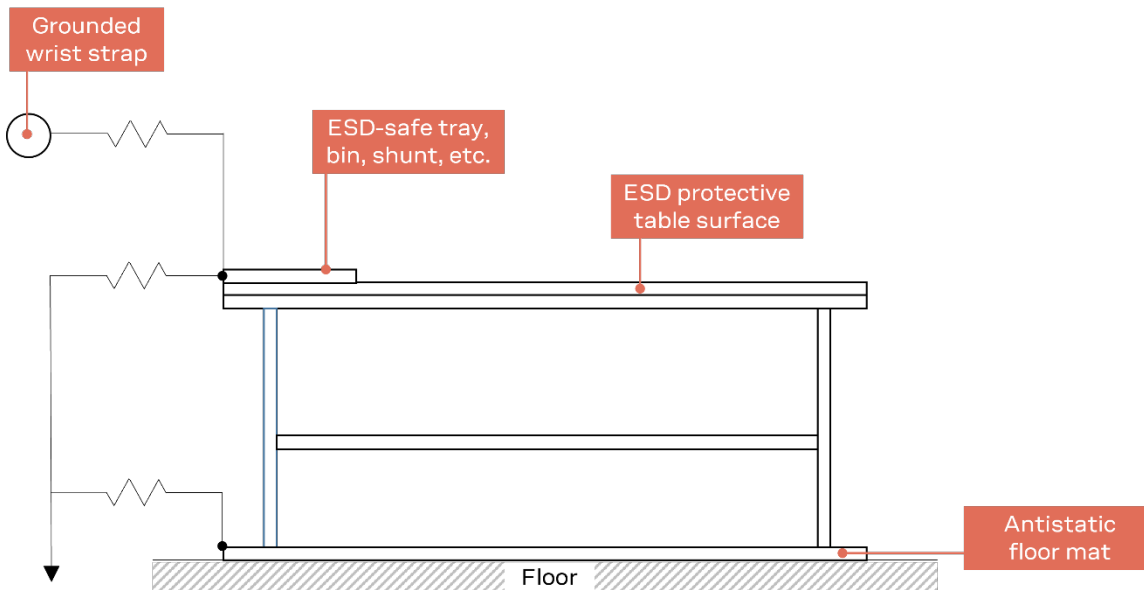

Figure 25: Standard workstation setup for safe handling of ESD-sensitive devices
- ⚠** As the risk of electrostatic discharge in the RF transceivers and patch antennas of the module is of particular concern, standard ESD safety practices are prerequisite. See also Figure 25.